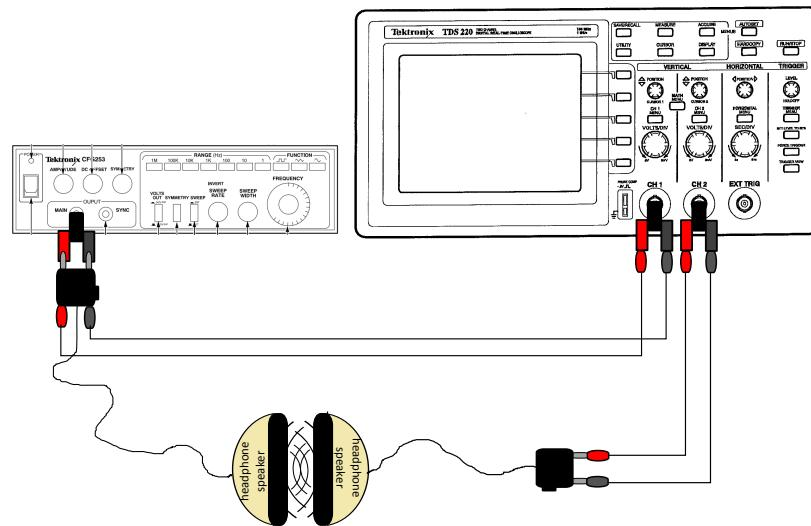

Figure 2: Circuit diagram for part 3 of this experiment.
1. To create a sound wave, hook up the output of the function generator to the headphone speaker, as partially shown in Figure 2. There is a tab on the side of the headphone adapter to tell you which pin corresponds to ground. Try a sine